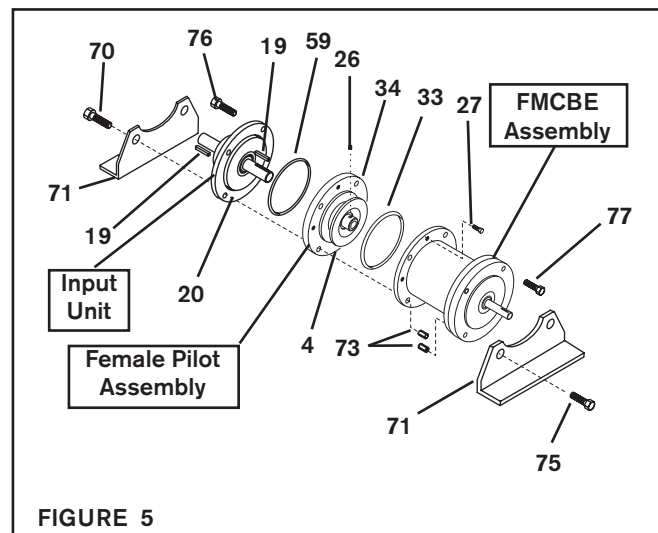

FIGURE 5
Refer to Figure 5.
8. Using eight 10-24 x 0.750" Hex. Head Caps Screws (Item 27), secure the FMCBE Assembly to the Female Pilot Assembly (See Figure 5).